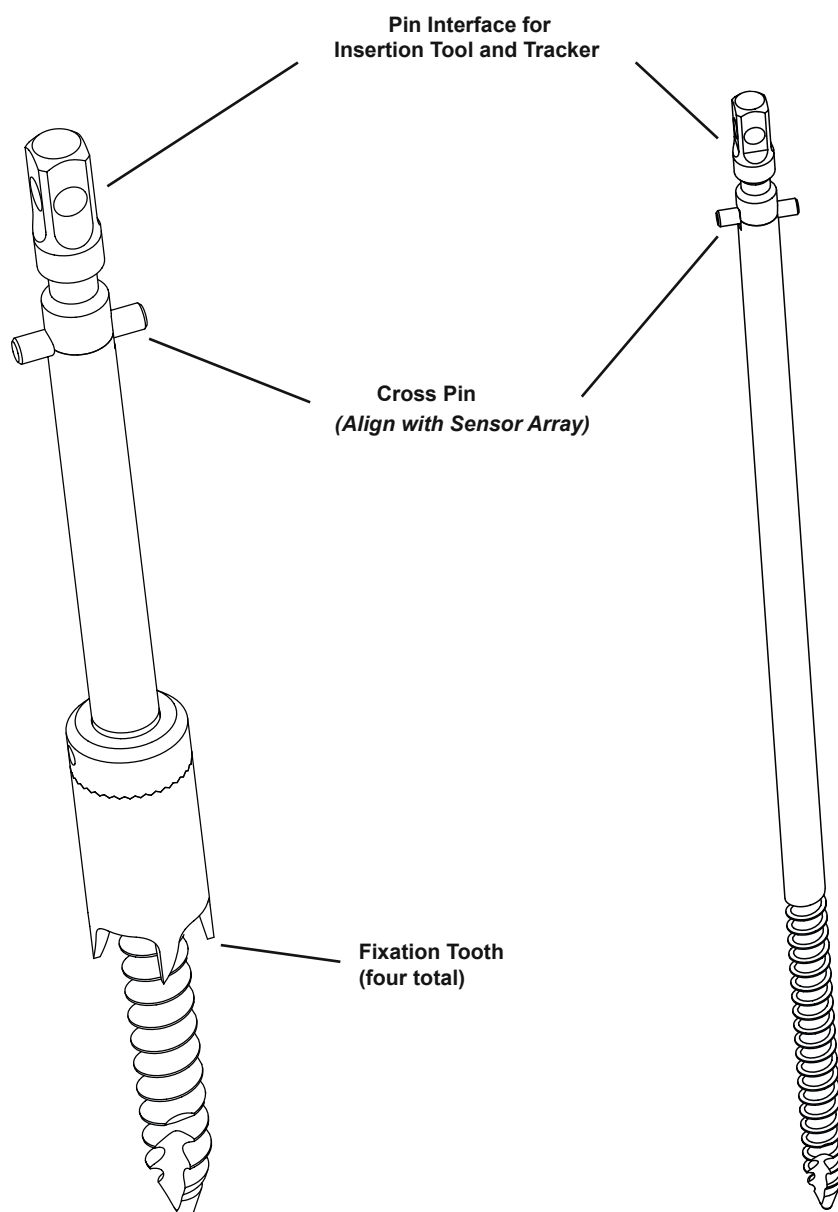

Figure 1: Toothed Anchoring Pin (left) and non-toothed Pelvic Pin for Knee Navigation (right)
- If excessive torque is applied, the Anchoring Pin may overdrill since the fixation teeth (*fig. 1*) can no longer penetrate into the bone.